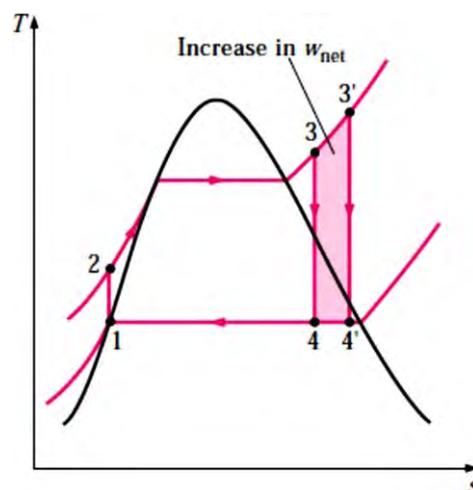

Fig. 6.5 Effect of superheating on Rankine cycle performance
- The effect of superheating on the performance of Rankine cycle is illustrated on a T-s diagram in Fig. 6.5.